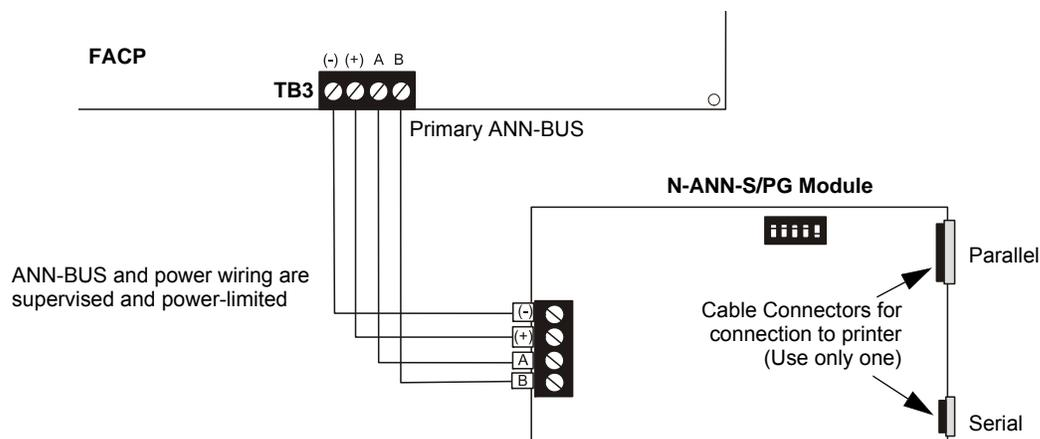

Figure 2.21 N-ANN-S/PG Connection to FACP
2. Connect the N-ANN-S/PG to the FACP as illustrated in Figure 2.21.
5. Connect a printer to the N-ANN-S/PG Parallel or Serial connector (refer to Figure 2.21 on page 42).